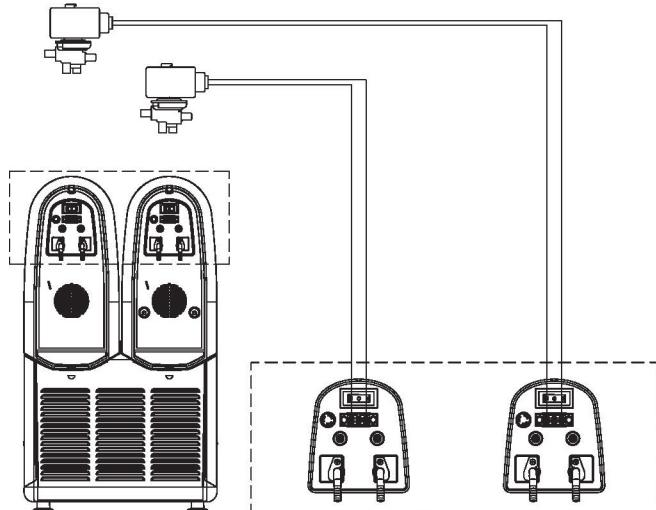

figure 2
valve (see figure 2).
Proper Inlet flow adjustmnet (E) is factory preset. To change the flow, if needed, use a suitable Allen Key to turn the adjustment screw located on top of each Autofill Inlet as follows:(see figure 2)